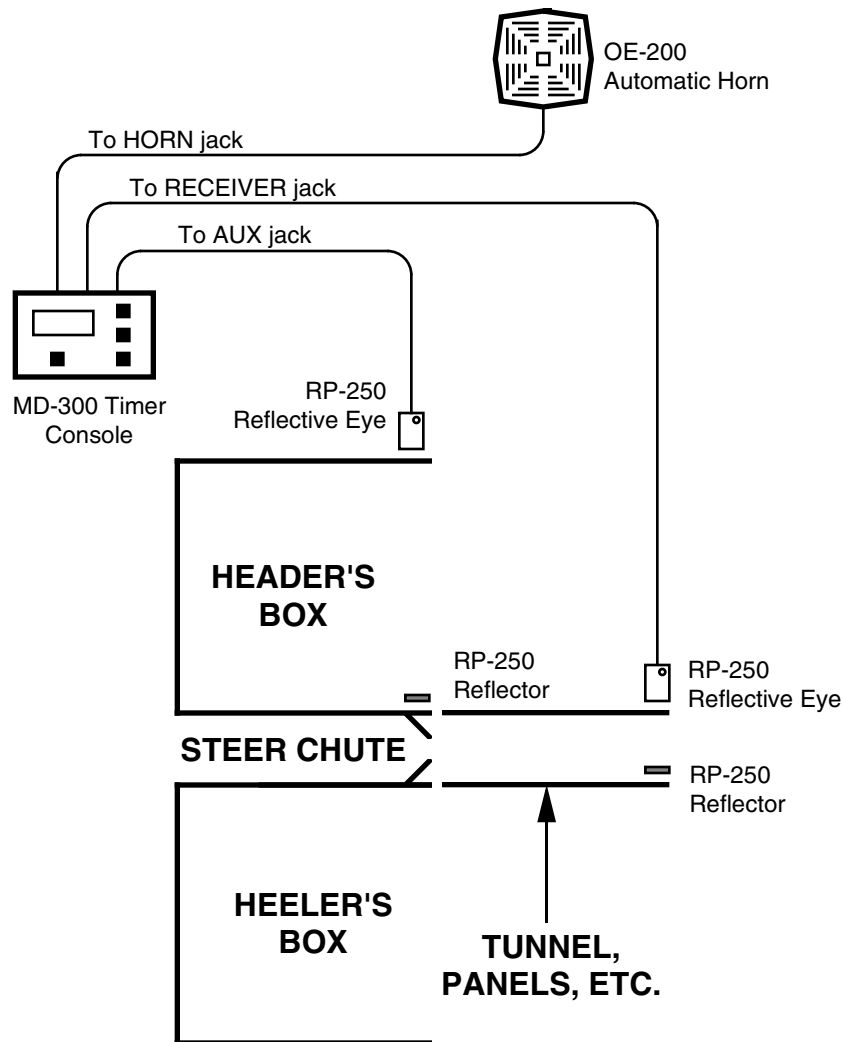

Figure 2, Using an RP-250 for Steer Score Line
If using an additional RP-250 Electric Eye Barrier to form the score line instead of using the MD-300 Electric Eyes, place the reflective electric eye and reflector on opposite sides of the steer chute to form an invisible score line at the desired distance in front of the chute. Adjust the height of the electric eye and reflector to ensure the beam is broken by the steer's body--not its legs. See Figure 2 for a sample arena setup using the RP-250 for the steer score line.
- 1) You can mount the electric eye and reflector just a few feet apart at the end of a runway or tunnel which forces the steer through the light beam. See Figure 2.